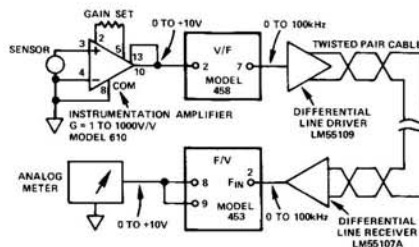

Figure 11. Application of Model 458 V/F Converter in a High Performance, High Noise Rejection Two-Wire Data Transmission System
**High Noise Immunity Data Transmission:** A method of accurately transmitting analog data through high noise environments is illustrated in Figure 11. This approach utilizes the self clocking output of models 458 and 460 and eliminates the need for costly additional twisted pair for external synchronization. Model 610 amplifies the low level differential signal up to the 10V full scale V/F input level. A differential line driver is used to drive a twisted pair cable. The differential line driver and receiver offer high noise immunity to common mode noise signals.